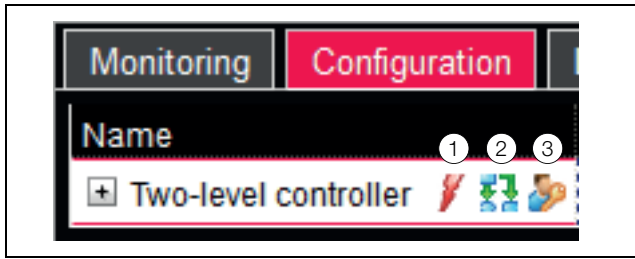

Fig. 31: Icons on the "Configuration" tab
- Configure All Alarms (fig. 31, item 1)
- Configure Device Rights (fig. 31, item 3)
- Configure Inputs and Outputs (fig. 31, item 2)